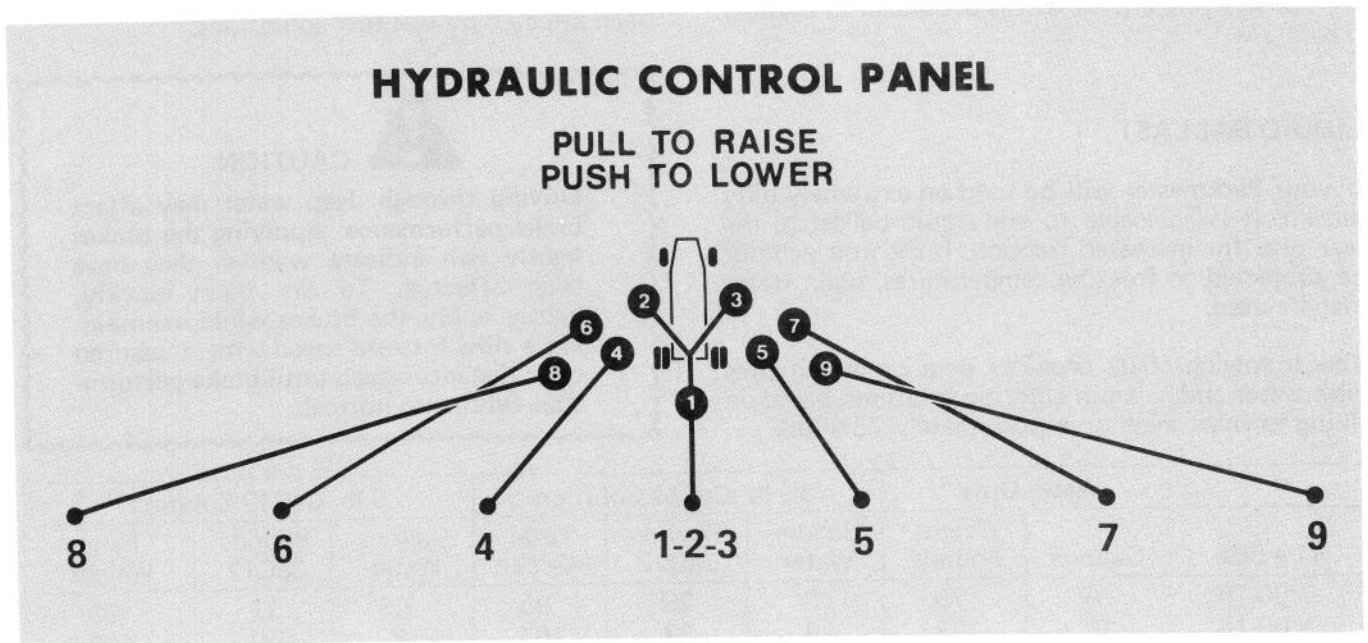

Figure 43
3. Push the hydraulic control levers toward the valve section to lower the mowers with Parkmaster in motion to eliminate possibility of spinning tractor drive wheels on the turf causing turf damage. Use the diagram on top of hydraulic control panel as a guide to lowering mowers (Fig. 43).